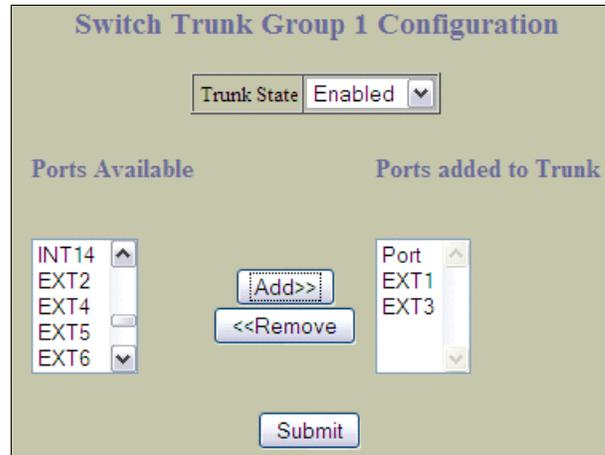

Figure 6-18 Switch Trunk Group 1 Configuration pane
9. In the Switch Trunk Group 1 Configuration pane (Figure 6-18):